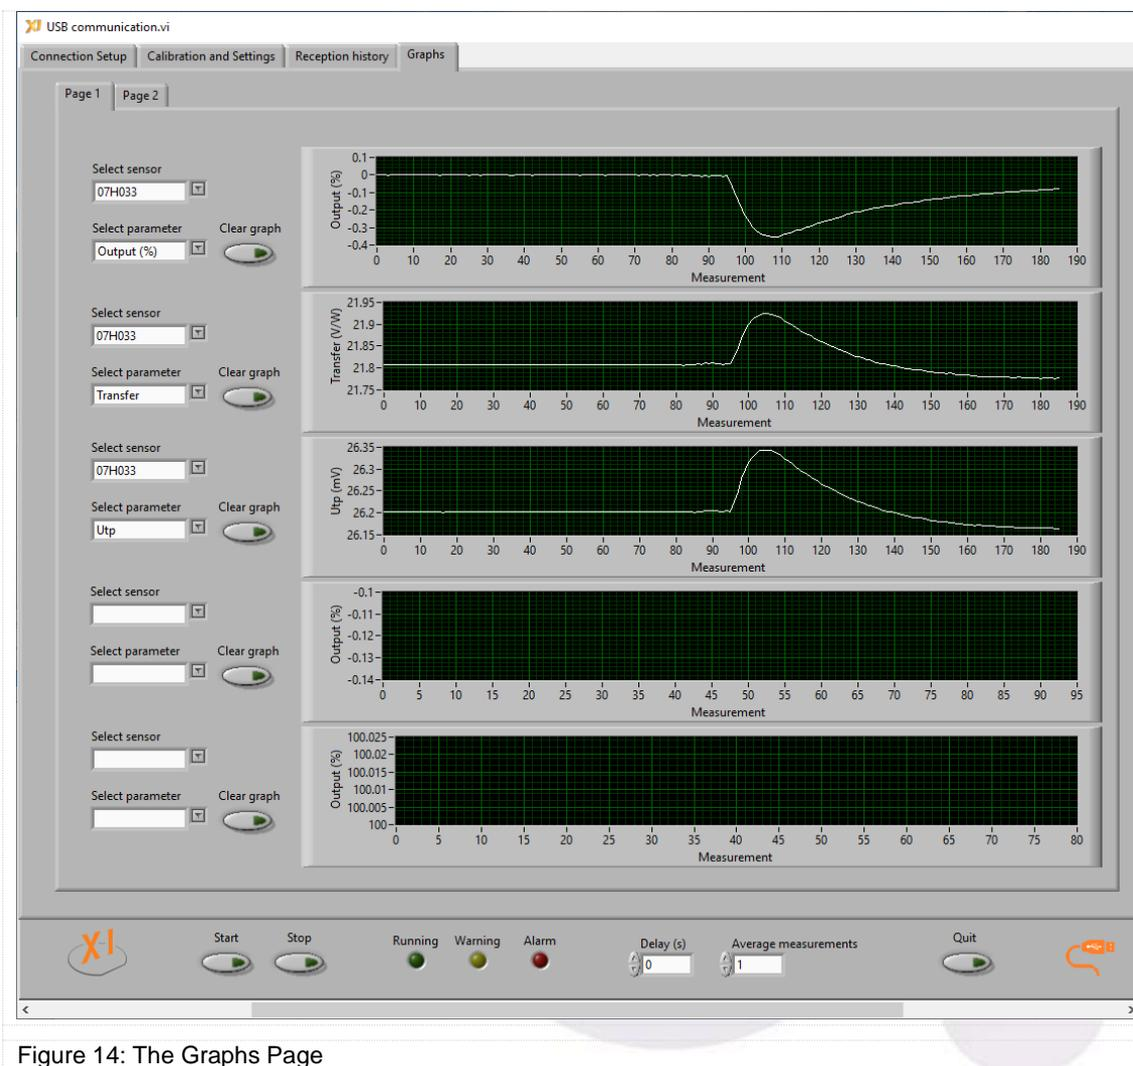

Figure 14: The Graphs Page
Fig. 14. shows several data of sensor 07H033: output (%), Transfer and Utp for some 185 measurements. The data refresh time is about 300 ms for the normal measurement speed used here. The graph shows the effect of breathing in and out over the XEN-5320. An average Absolute Humidity (AH) of about 4 kPa is attained, where the Maximum Saturation pressure of water vapor at 37 °C is 6 kPa.